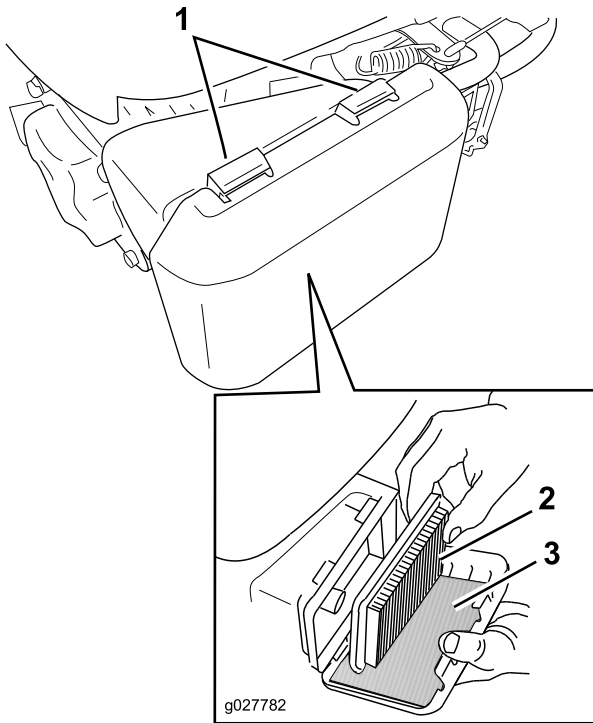

Figure 30
1. Press down on the latch tabs on top of the air cleaner cover (Figure 30).
3. Remove the paper air filter and the foam pre-filter (Figure 30).